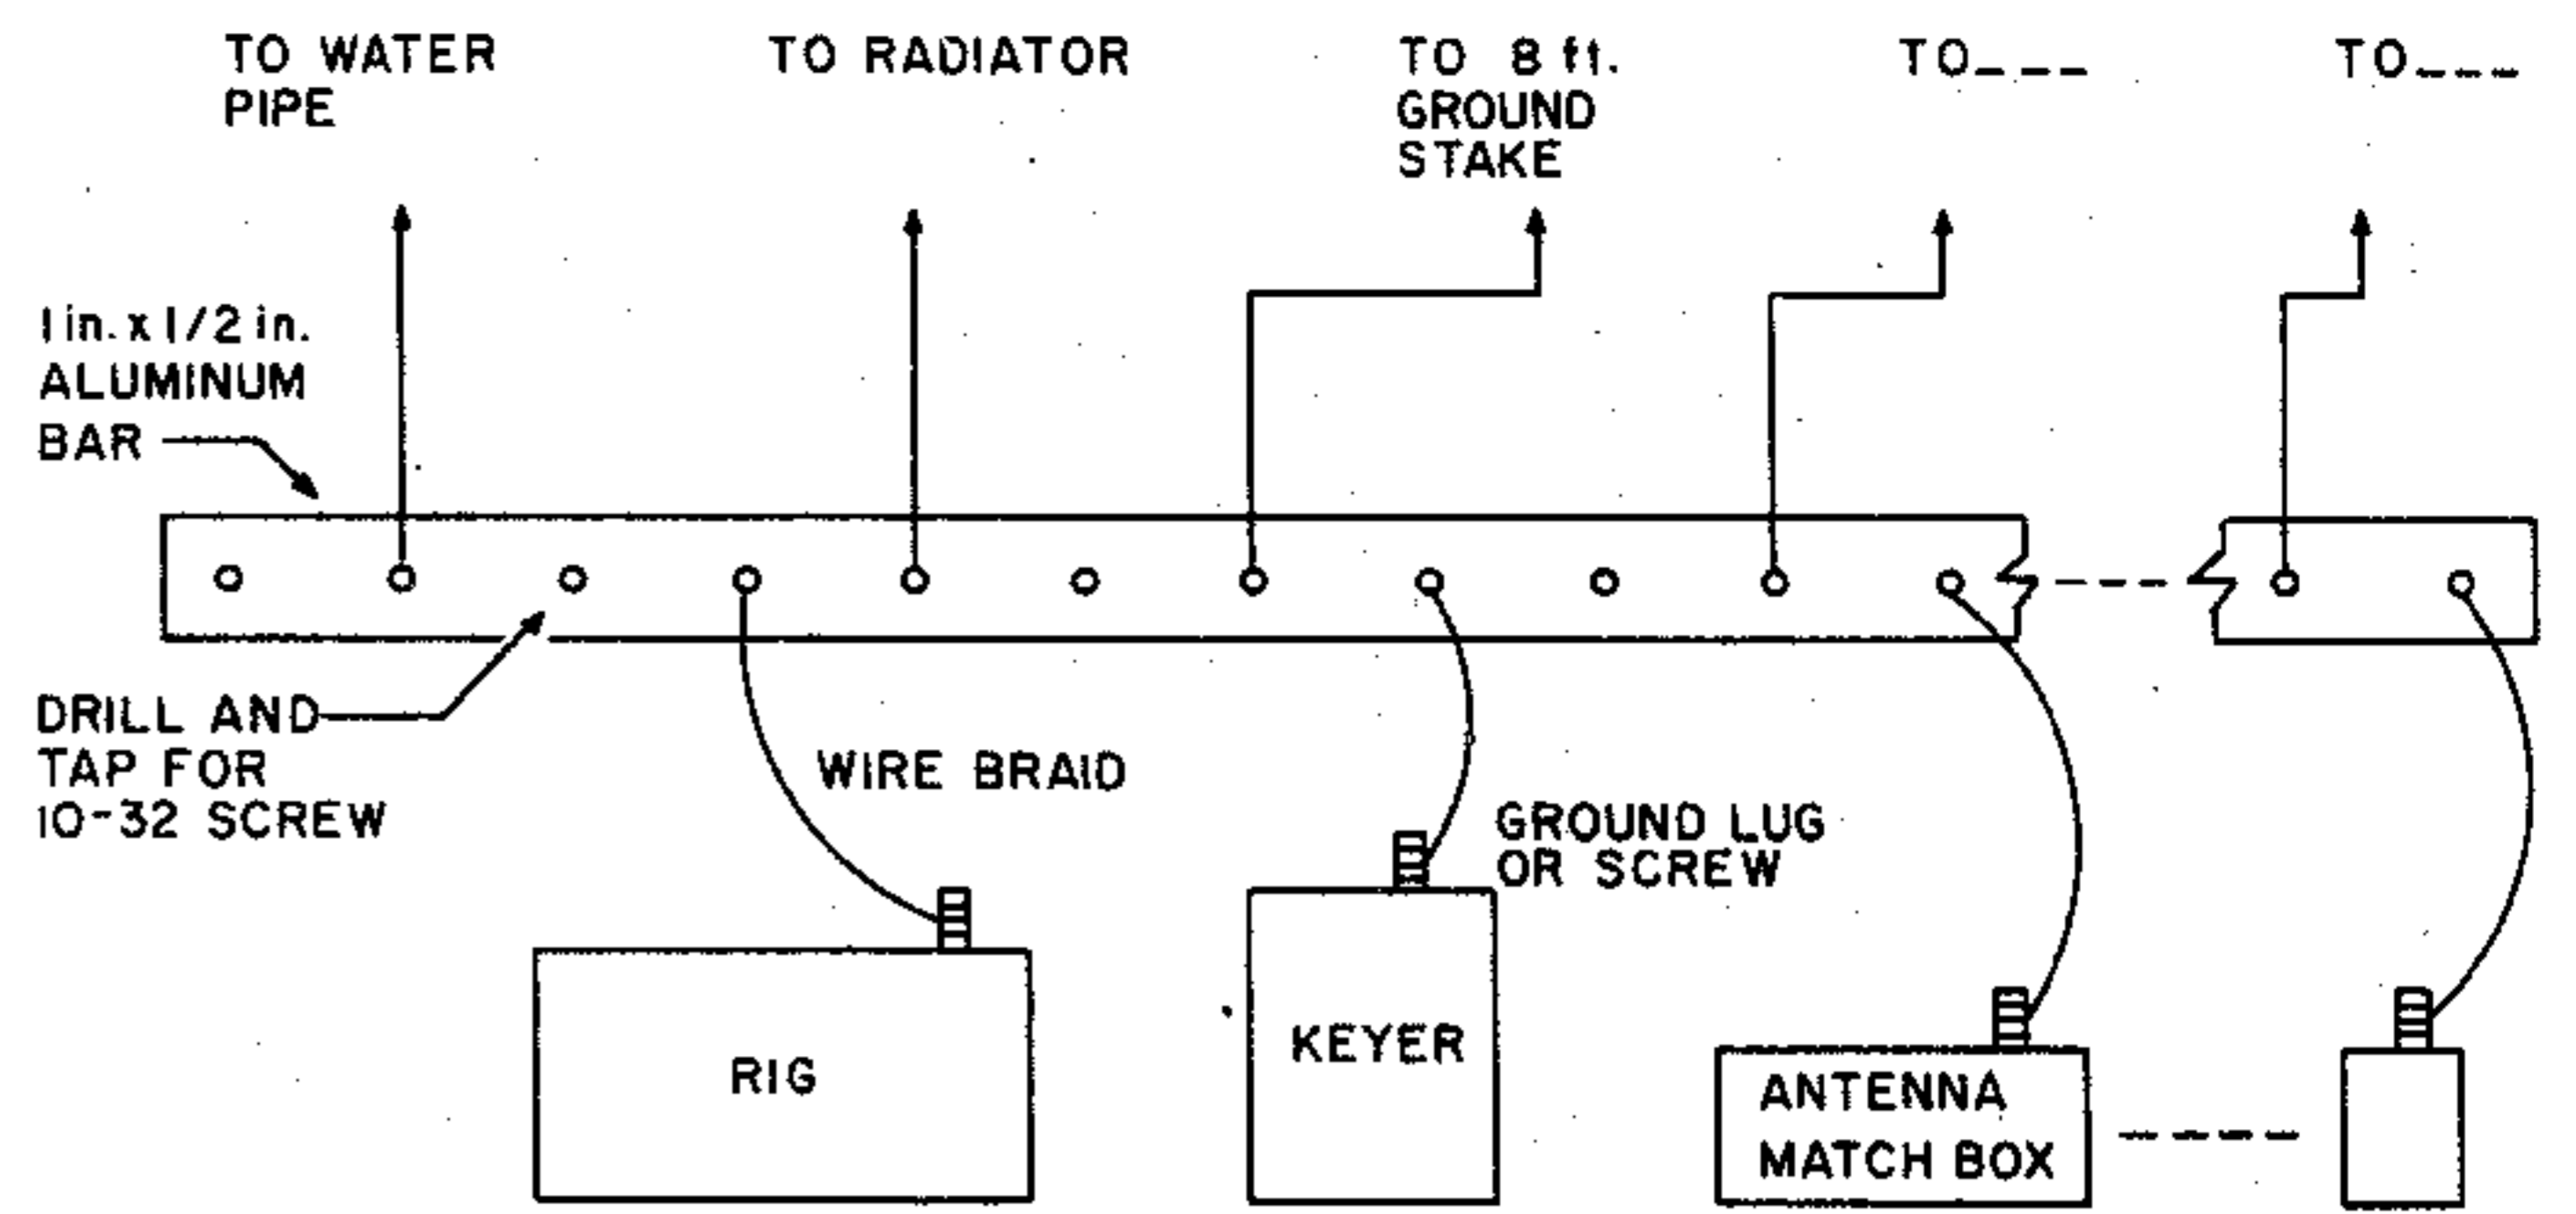

Fig. 3.
A. You need a good ground primarily for safety. I use a 1" x 1/2" aluminum bar, running the length of my operating table. Every 6" I have drilled and tapped it to connect braid from the bus to each of the pieces of equipment. When I put a piece of equipment down on the operating table, I connect it to the ground bus before I plug it in, and when I want to remove it, I unplug before I disconnect the ground. If anything goes wrong, at least I don't end up with the 120-volt line voltage on the front panel of the equipment. See Fig. 3.